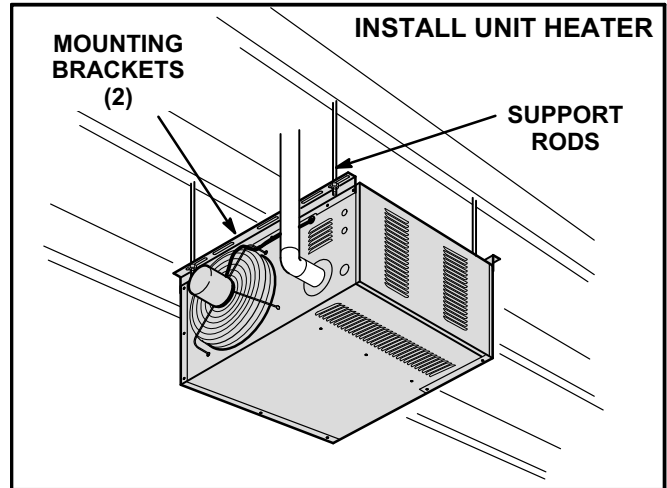

FIGURE 1
Unit is shipped ready for installation. Unit may be installed as shown in figure 1 or rotated 180° depending on desired location as governed by clearances, vent connection, air direction, gas supply, electrical supply and service accessibility.
- 5 - To support unit, secure mounting bracket to ceiling joist or truss. Unit may also be supported using support rods as shown in figure 1.